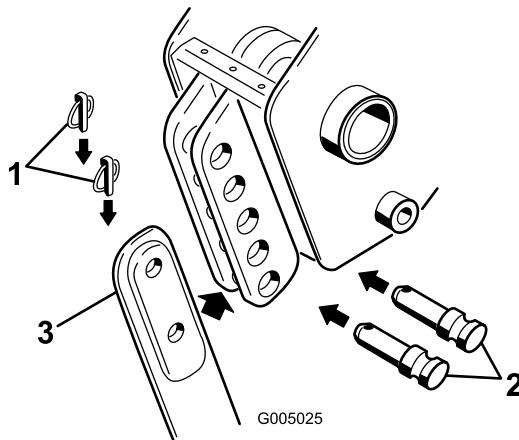

Figure 4
3. Remove the two click pins from the clevis pins in the blade bracket, then remove the clevis pins (Figure 4) and the existing blade (if installed).
4. Slide the new blade into the blade bracket and secure it at the desired depth (a change in mounting holes changes the depth by 7.6 cm (3 inches), using the clevis pins and click pins removed previously (Figure 4).
2. Remove the lower click pin and clevis pin securing the blade to the plow (to completely remove the blade, remove both the upper and lower click and clevis pins Figure 4).